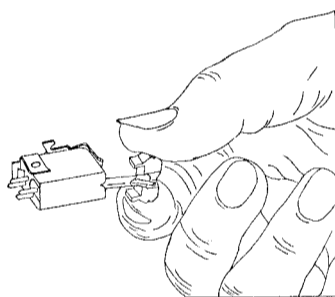

FIGURE 2
**STYLUS REPLACEMENT (see Figure 2):** Grasp molded housing of stylus and gently pull forward out of cartridge. Insert replacement stylus into socket and press until housing mates with cartridge case.